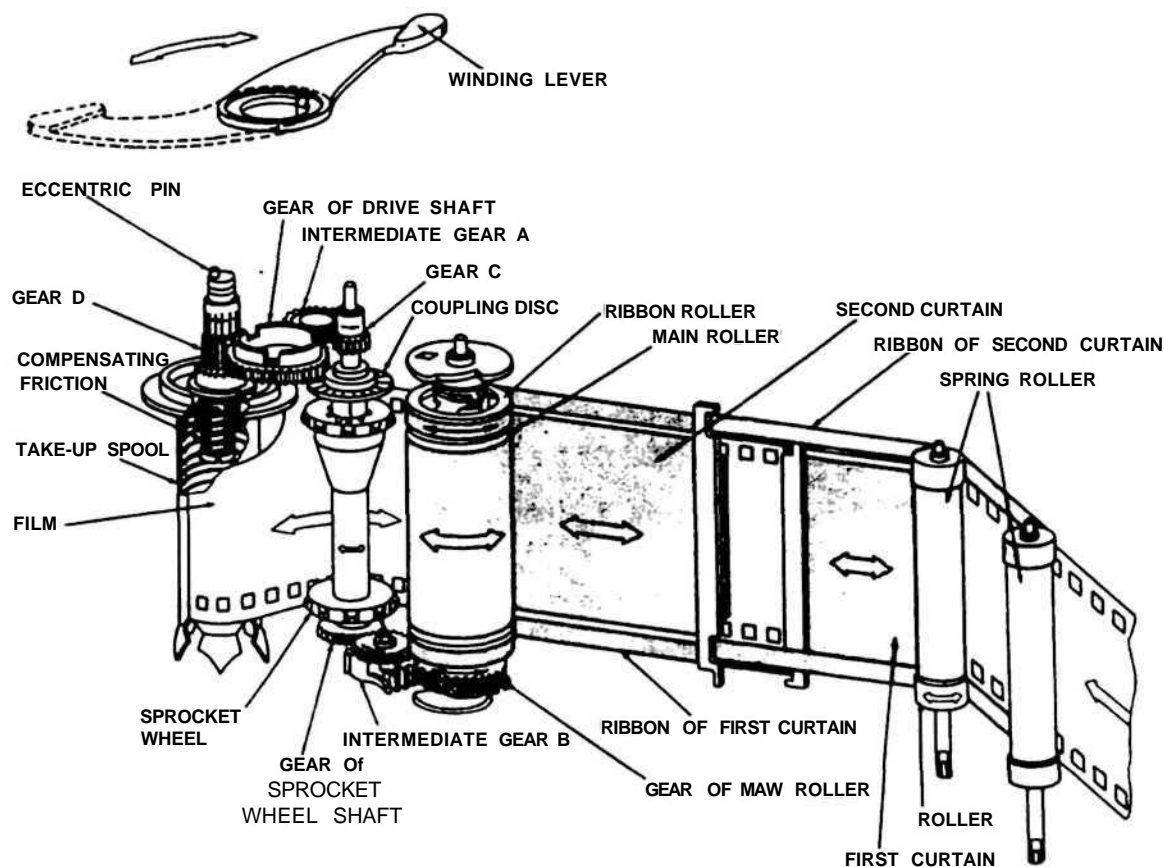

Figure 1-2. Film Transport and Shutter, Schematic.
a. *Shutter Winding* (fig. 1-2, 1-3, 1-4, 1-5, 1-6). The shutter is wound and the film advanced one frame by operating the winding lever through a complete stroke. The shutter may also be wound by completing a "stroke cycle" with a series of short intermittent strokes of the winding lever.
- (1) The driveshaft gear (fig. 1-2) rotates counter-clockwise as the winding lever is moved through its operating arc. Intermediate gear "A" meshes with gear "C" of the sprocket wheel shaft.
- (4) The lower gear (fig. 1-2) on the sprocket wheel shaft meshes with two-part intermediate gear "B" which engages a gear on the main shutter roller shaft. Operation of the winding lever rotates the main shutter roller through the gears. This simultaneously winds the second curtain on to the main roller; and by shutter curtain ribbons, pulls the first shutter curtain across the film aperture and tensions the springs of the spring rollers.
- (3) The degree of rotation of the take-up spool is dependent on the diameter of the spooled film. As the diameter increases, the take-up spool must rotate to a lesser degree. This is accomplished by a compensating friction clutch (fig. 1-2).
- (1) *Reverse lever*. To rewind exposed film, the sprocket wheel must be disengaged from the winding mechanism so it will rotate freely. The reverse lever when placed in a horizontal position, depresses the coupling disc (fig. 1-2) of the sprocket wheel assembly. This disengages the sprocket wheel.